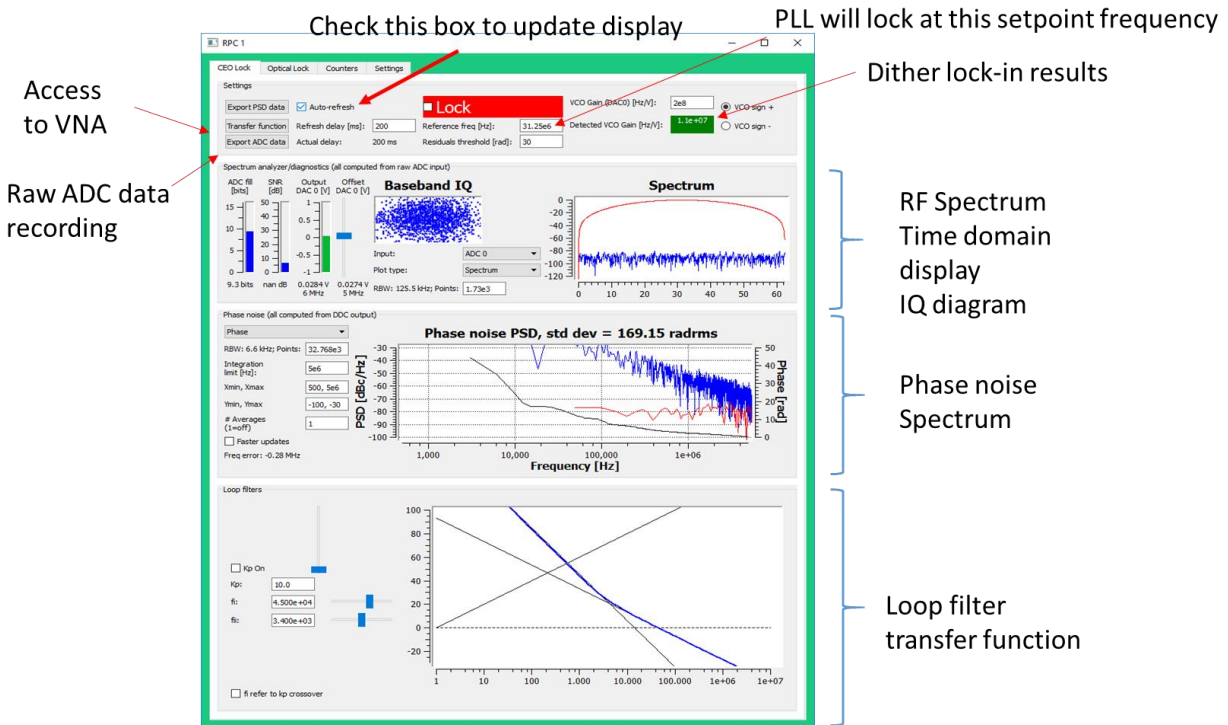

Figure 3 - Main user interface. Refer to the NIST digital lockbox manual or the PowerPoint presentation for more details on each subsection.
8. At this point, the window shown in figure 3 will appear if the connection succeeded. Check "Auto-refresh" to display the diagnostics signals in the interface.